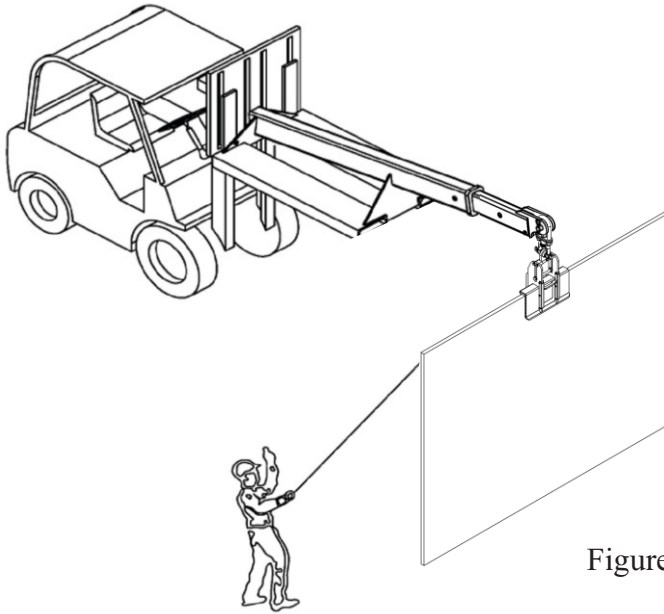

Figure 4.1
**Step 4:** Move the slab to the desired location (Figure 4.1).